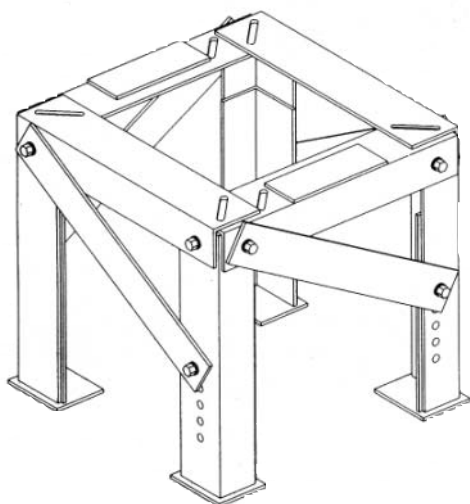

Figure 1-5.
3. The knife switches on the back panel should be set with the V1 (potential switch) [and V6 if present] closed (pushed in), and the C (CT shorting switch) open (pulled out). See Figure 1-5.
4. Close the SOURCE-LOAD (SL) disconnect switch. (Delta applications only).
5. Close the SOURCE (S) disconnect switch.
3. Open the V1 knife switch (and V6 if present) on the back panel (Figure 1-5).
6. Open the SOURCE(S) disconnect switch.
7. Open the LOAD (L) disconnect switch.
8. Open the SOURCE-LOAD (SL) disconnect switch. (Delta application only.)